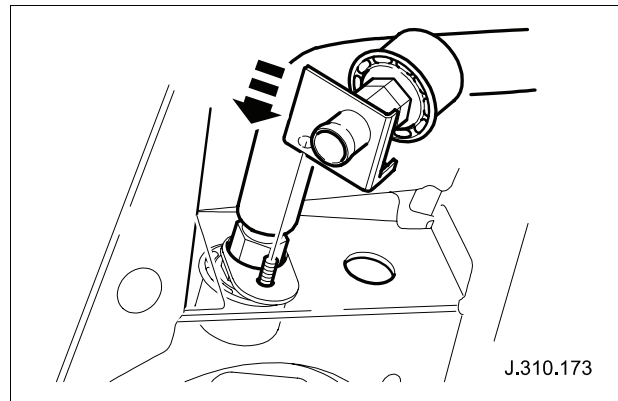

Fig. 8
- 35 Holding original filter in place by hose, install new filter/bracket assembly to old filter stud (see Fig. 8).